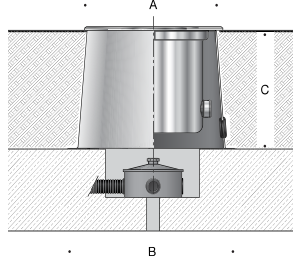

Figure 1: Mounting
1. Position back housing on the stable foundation; anchor using hardware (by others). See Figure 1.